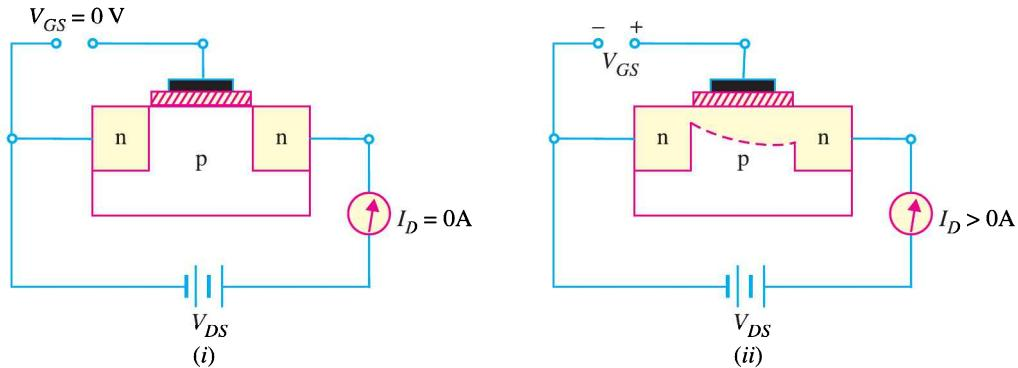

Fig. 19.55
Two things are worth noting about *E-MOSFET*. First, *E-MOSFET* operates *only* in the enhancement mode and has no depletion mode. Secondly, the *E-MOSFET* has no physical channel from source to drain because the substrate extends completely to the SiO_2 layer [See Fig. 19.55 (i)]. It is only by the application of V_{GS} (gate-to-source voltage) of proper magnitude and polarity that the device starts conducting. The minimum value of V_{GS} of proper polarity that turns on the *E-MOSFET* is called *Threshold voltage* [$V_{GS(th)}$]. The *n*-channel device requires positive $V_{GS} (\geq V_{GS(th)})$ and the *p*-channel device requires negative $V_{GS} (\geq V_{GS(th)})$.
Operation. Fig. 19.55 (i) shows the circuit of *n*-channel *E-MOSFET*. The circuit action is as under :
- (i) When $V_{GS} = 0 \text{ V}$ [See Fig. 19.55(i)], there is no channel connecting the source and drain. The *p* substrate has only a few thermally produced free electrons (minority carriers) so that drain current is essentially zero. For this reason, *E-MOSFET* is normally *OFF* when $V_{GS} = 0 \text{ V}$. Note that this behaviour of *E-MOSFET* is quite different from *JFET* or *D-MOSFET*.
(ii) When gate is made positive (*i.e.* V_{GS} is positive) as shown in Fig. 19.55 (ii), it attracts free electrons into the *p* region. The free electrons combine with the holes next to the SiO₂ layer. If V_{GS} is positive enough, all the holes touching the SiO₂ layer are filled and free electrons begin to flow from the source to drain. The effect is the same as creating a thin layer of *n*-type material (*i.e.* inducing a thin *n*-channel) adjacent to the SiO₂ layer. Thus the *E-MOSFET* is turned *ON* and drain current I_D starts flowing from the source to the drain.